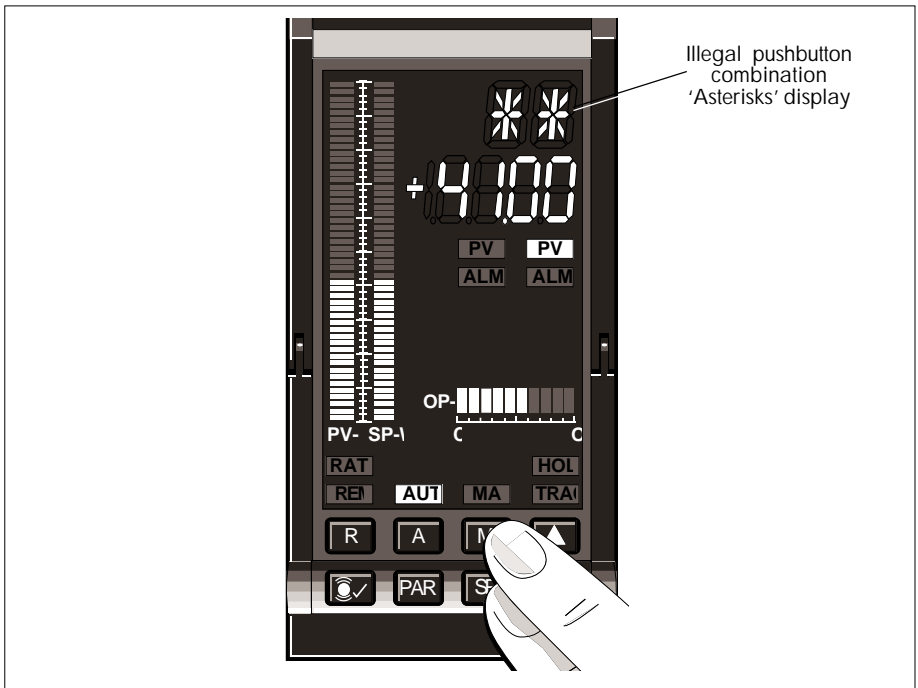

Figure 3-2 Illegal key-combination error ‘asterisk’ display — example
- **Pushbutton errors.** Another function of the 2-character display is to tell you if you have pressed an illegal pushbutton combination or sequence, which the instrument will ignore. In this case the display shows a pair of ‘asterisks’; Figure 3-2 shows an example. You should react to this message by releasing all buttons to clear the error. Until this is done any further button-presses are also ignored. (Valid pushbutton-combinations are given in §§ 1.6 & 2.3.)